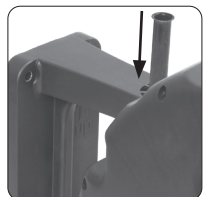

Fig. 2 Pivot Pin
6. Connect the hose reel to the Mounting Bracket with the Pivot Pin. (Fig. 2)